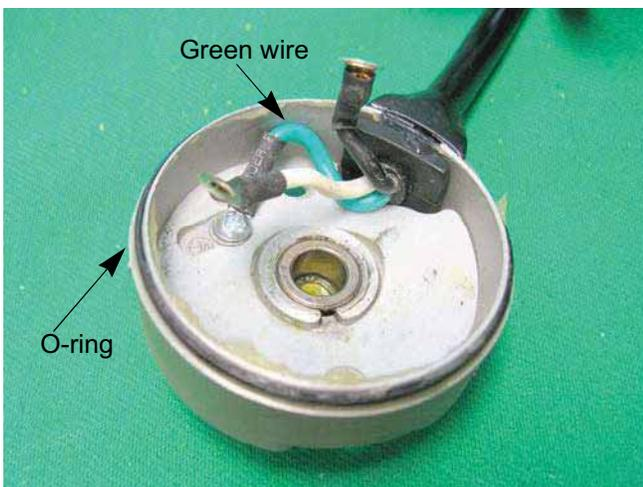

Figure 6.21
17. Install a new O-ring on the end cap. See Figure 6.21.